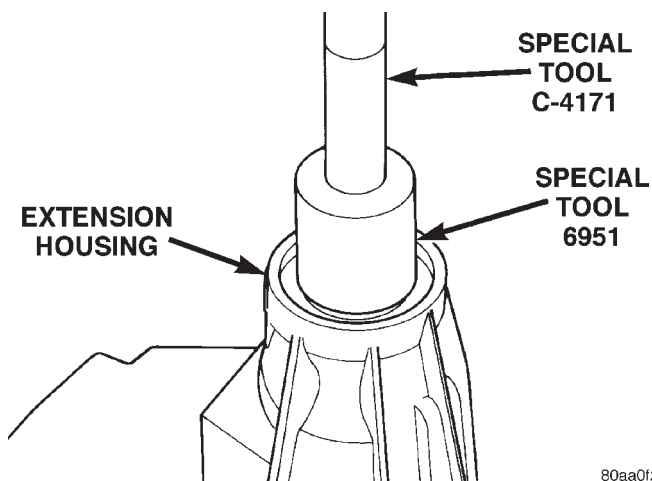
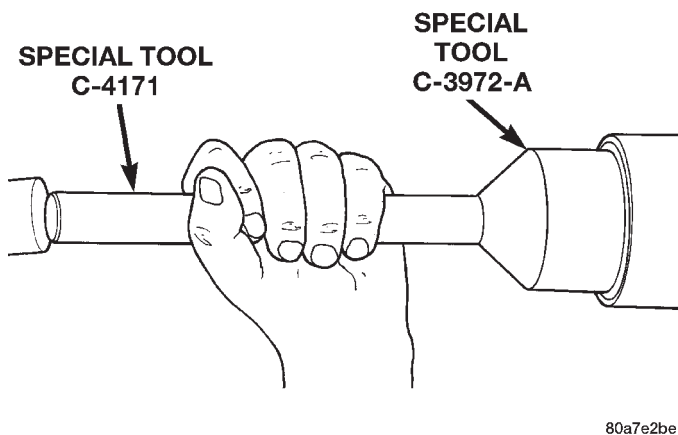

Fig. 22 Install Extension Housing Bushing
Fig. 23 Install Extension Housing Seal
(1) On light duty transmissions, install the extension housing bushing with Installer 6951 and Handle C-4171 (Fig. 22).
(2) On heavy duty transmissions, install the extension housing bushing with Installer 8156 and Handle C-4171.
(3) On light duty 4X2 transmissions, install the extension housing seal with Installer C-3972-A and Handle C-4171 (Fig. 23).